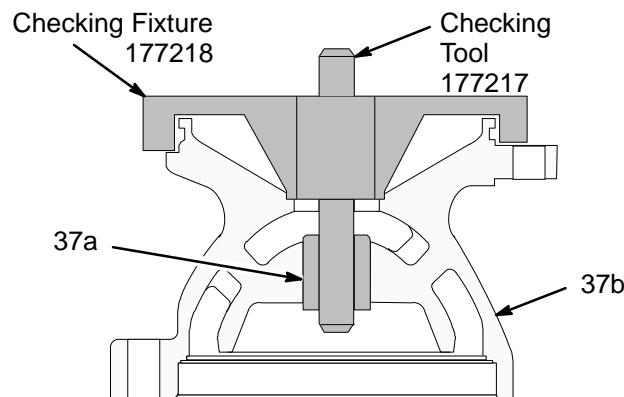

Fig. 13
- e. Check the bearings for concentricity. Place the checking fixture 177218 on the bowl as shown in Fig. 13. Drop the long end of the checking tool 177217 into the center hole of the fixture. The tool should turn freely without binding. If the tool binds, the bearings must be replaced.